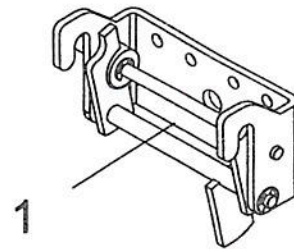
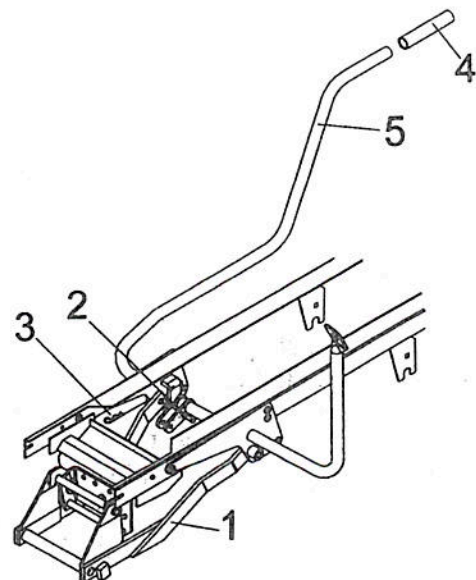

Figure 5
Figure 6
- h) If your tractor is not equipped with the Toro "Attach-a-matic" (see fig. 5) you must install this part by following the mounting instructions included with the "Attach-a-matic".
- i) Install the front portion of subframe (fig. 6, item 1) into the "Attach-a-matic" (fig. 5, item 1). Attach the rear portion with two pins (fig. 6, item 2) and secure in place with two hair pins (item 3).
- k) Install the plastic handle grip ( fig. 6, item 4) on the lift arm (item 5).